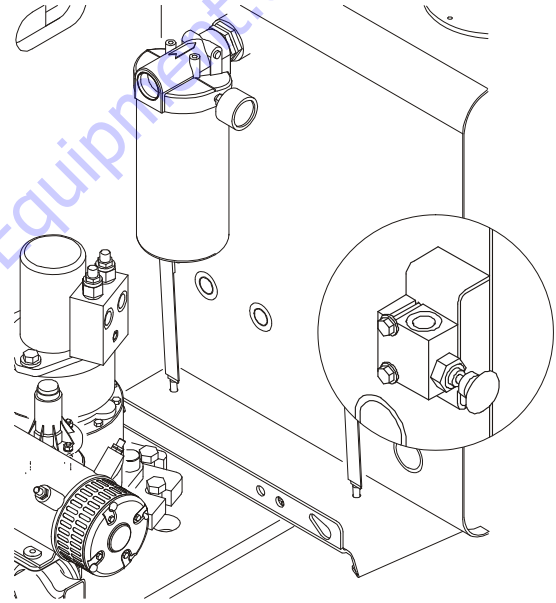

Figure 4-8. Releveling Valve
3. Pull and hold the red relevel knob located next to the main control valve. Refer to Figure 4-8.